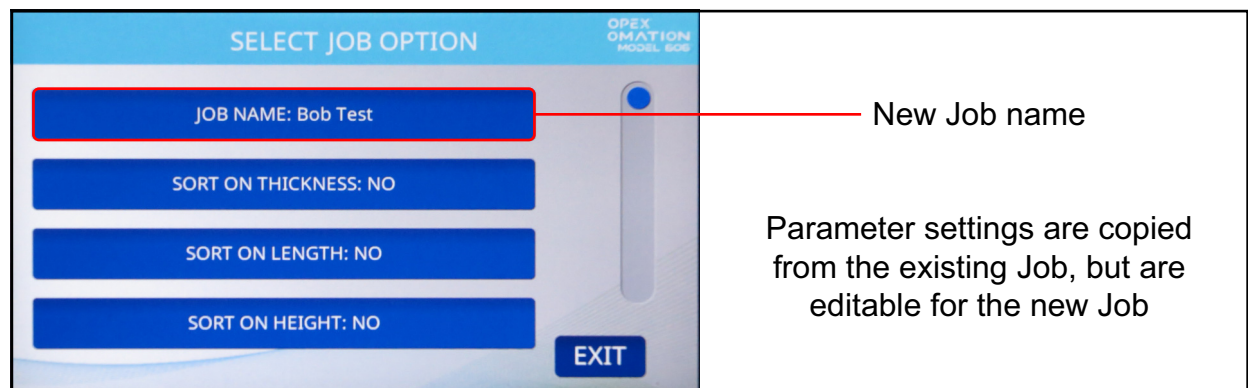

Figure 6-13: Select Job Option screen
5. Modify the Job Options (Figure 6-13) as needed. These are discussed in detail in “Job Parameter Details” on page 91.